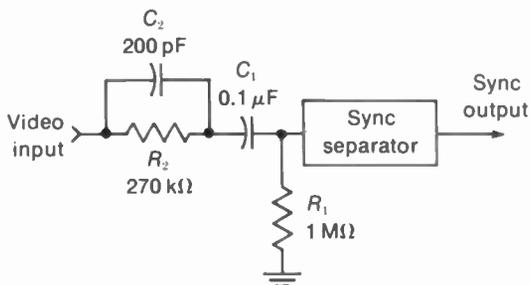

FIGURE 16-14 DOUBLE TIME CONSTANT FOR SIGNAL BIAS ON SYNC SEPARATOR.  $R_2C_2$  HAS SHORT TIME CONSTANT TO REDUCE EFFECT OF NOISE.
2. Double time constant for the signal bias in the sync separator. See Fig. 16-14. A long time constant is needed for the vertical sync, but a shorter time constant reduces noise setup.
ues for grid-leak bias with a tube are 0.1  $\mu\text{F}$  for  $C_1$  and 1  $\text{M}\Omega$  for  $R_1$ , providing a time constant of 0.1 s (Fig. 16-14). These values allow the bias to vary from frame to frame for different brightness values, keeping the tip of sync clamped at zero grid voltage. However, a time constant of 0.1 s is too long for the bias to follow amplitude variations produced by noise pulses.
In order to reduce the effect of high-frequency noise pulses on the grid-leak bias for the sync separator, an *RC* circuit with a short time constant can be added to the grid circuit of the sync separator, as shown in Fig. 16-14. The grid coupling circuit  $R_2C_2$  provides normal grid-leak bias, with a time constant of 0.1 s, for the sync signal. The small 200-pF  $C_2$  and the 270-k $\Omega$   $R_2$  provide a short time-constant combination. Then the grid-leak bias can change fast enough to reduce the effect of noise pulses in the input to the sync separator.